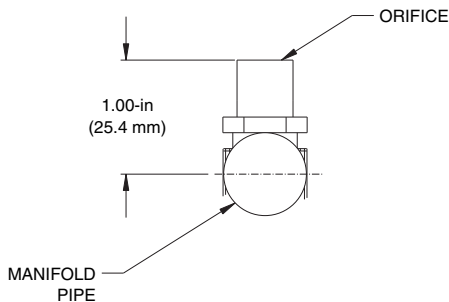

Fig. 33 – Orifice Projection
Orifice projection — Refer to Fig. 33 for maximum projection dimension for orifice face to manifold tube.
5. If factory orifice has been removed, check that each orifice is tight at its threads into the manifold pipe and that orifice projection does not exceed maximum valve. (See Fig. 33).
Check that each replacement orifice is tight at its threads into the manifold pipe and that orifice projection does not exceed maximum value. (See Fig. 33.)